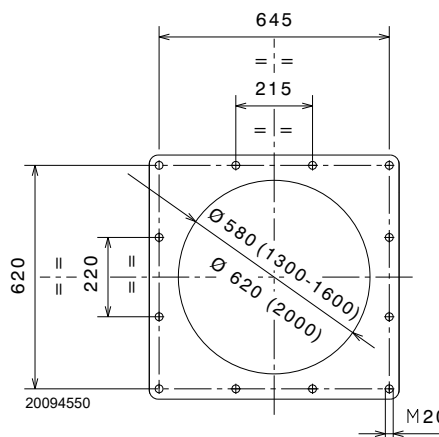

Fig. 13
Pierce the closing plate of the combustion chamber, as in Fig. 13.
- Fit the entire burner onto the boiler hole, prepared previously, as in Fig. 13, and fasten with the screws supplied (tightening torque 250 ± 300 Nm).